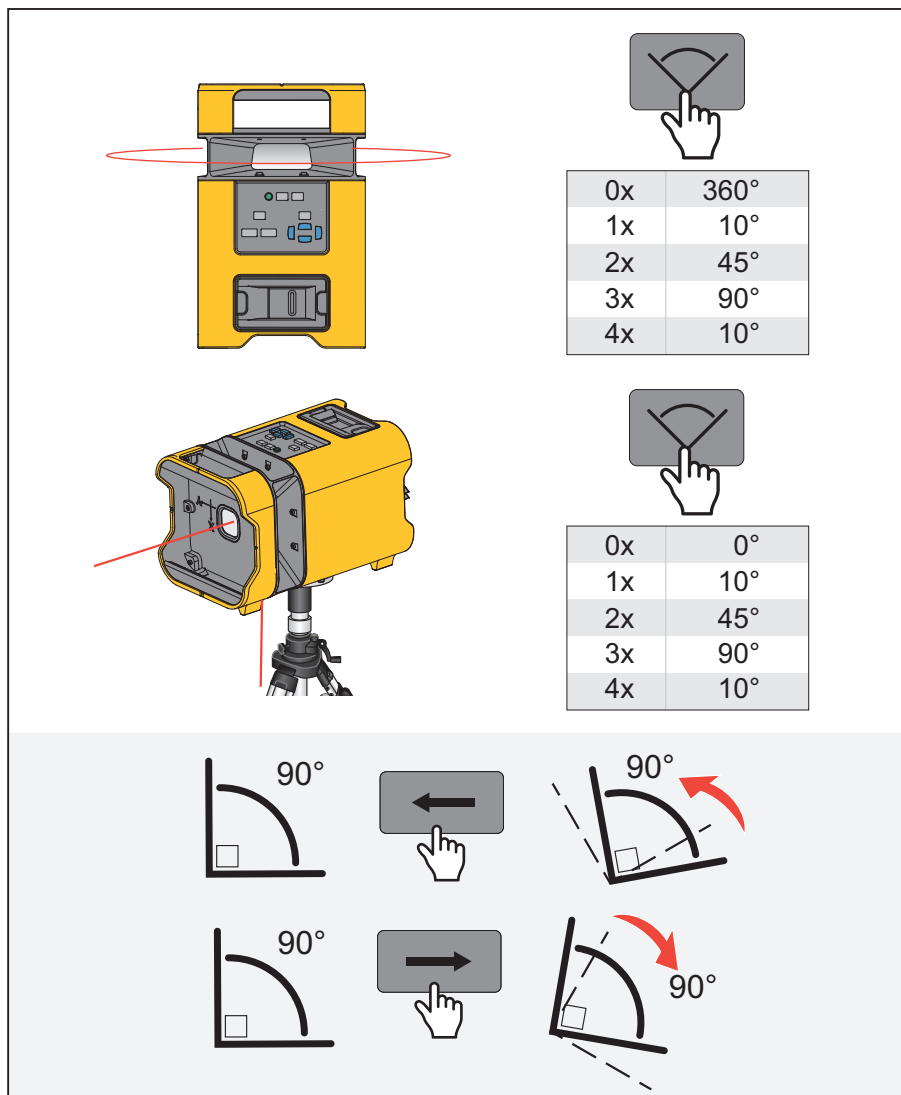

Figure 4. Scan Mode
1. Push  to enable scan mode and to set the arc length. Figure 4 shows how many times to push  to cycle through the possible arc lengths.